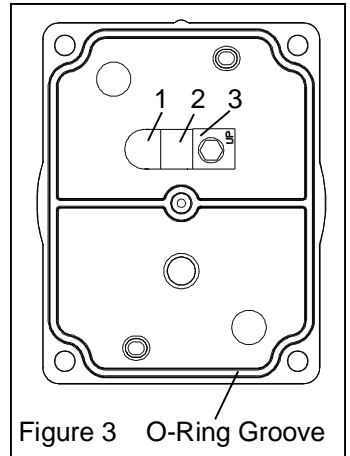

Figure 3 O-Ring Groove
STEP 7. Remove the exhaust Valve Flapper (1), Valve Backer (2) and Valve Keeper (3) from the top of the valve plate and discard them. Clean the top of the valve plate with a clean, soft cloth. Install the new exhaust Valve Flapper, Valve Backer and Valve Keeper. The Valve Keeper should be placed on top of the Valve Flapper so that the word "UP" is visible See Figure 3.
STEP 8. Install the new head gasket, seating it firmly into the groove with your finger or blunt object See Figure 3. Set aside. Repeat steps 5 thru 8 to service other end of compressor